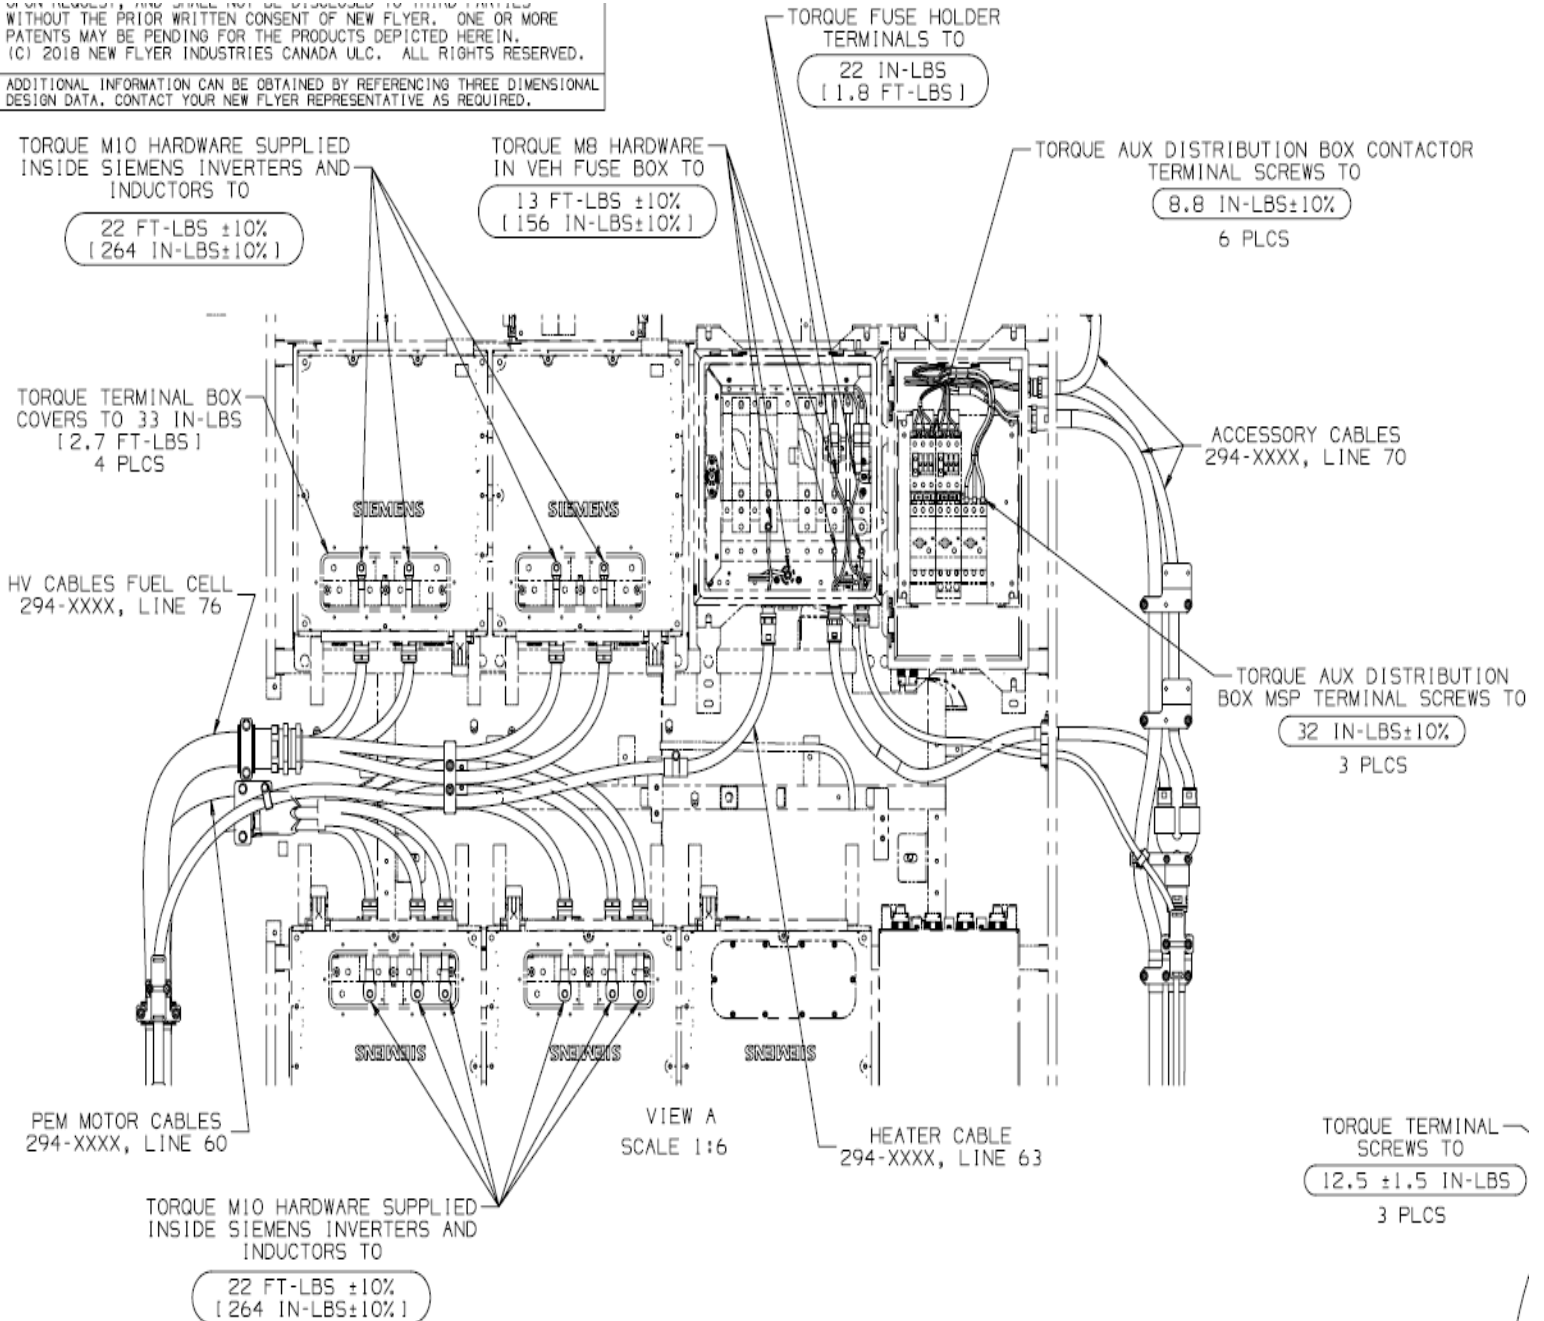

Figure 10: Inverter Rack HV Cable Torque Layout
42. Ensure HV cables are torque to specification detailed in Figure 10.